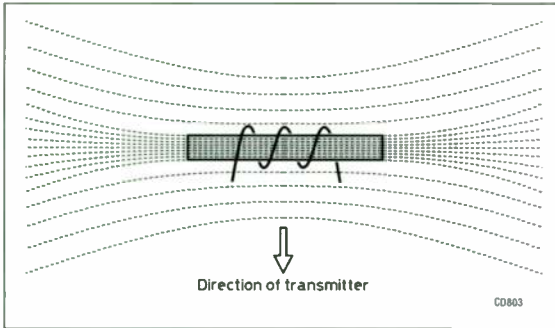

Fig 1.3. A ferrite rod offers an 'easy' path to the magnetic field from the transmitter
The antenna is designed to 'capture' as much energy as possible from the transmitter. A simple example of this occurs in the case of a ferrite rod antenna like the one commonly used in a medium-wave and long-wave broadcast receiver. It consists of a rod of magnetic material which works well at medium frequencies (MF) – ferrite is the most common one in use, with a coil of wire wound over it. When a varying magnetic field exists in the rod, voltages are induced in the coil. Fig 1.3 illustrates this. Note how the magnetic field is distorted by the presence of the iron – this occurs because it is easier for a magnetic field to exist in iron than in free space.